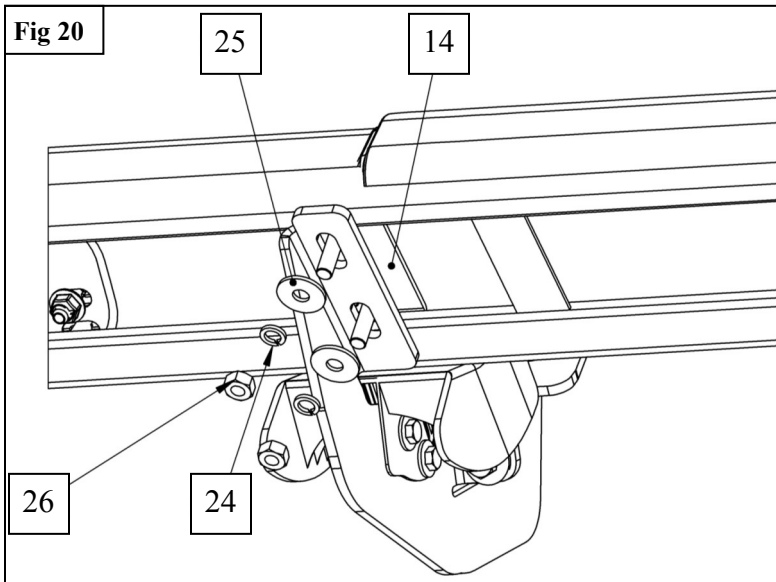

Fig 20
18. Installation of the step boards will utilize the supplied M8 hardware with Plate Adapters (14) for all brackets excluding the Link Brackets (7). The Link Brackets (7) will use the supplied M10 hardware. See Figures 20 and 21.